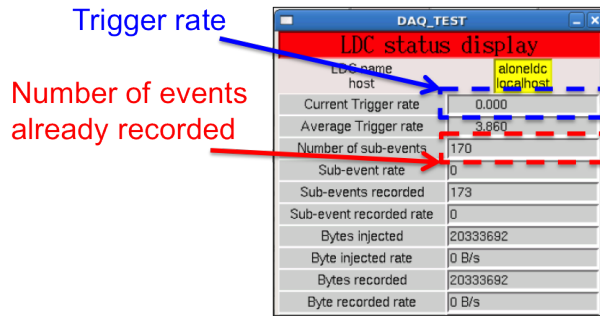

Figure 5.30: QC5 DATE LDC status panel.
10. After the trigger was enable in SCRIBE, you should see the trigger rate around 700 Hz in the DATE LDC status window (Fig. 5.30). Similarly, the number of recorded events is increasing while the acquisition in ongoing.